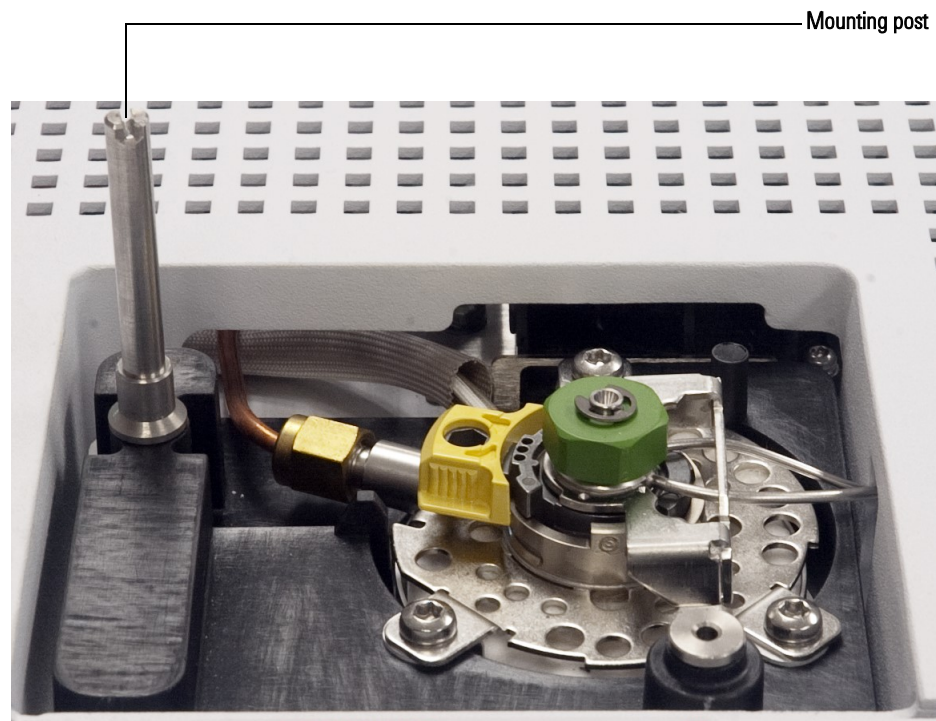

Figure 15 Mounting post installed on a 5975T LTM-GC/MSD
- For a 5975T LTM-GC/MSD, install the mounting post as shown in Figure 15. The post must be turned all the way down.